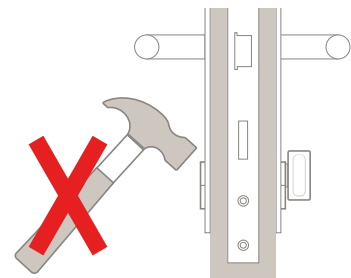

Figure 5 - Do not force the cylinder
7. DO NOT FORCE the cylinder into place as this will damage the cylinder and lock case (Figure 5).